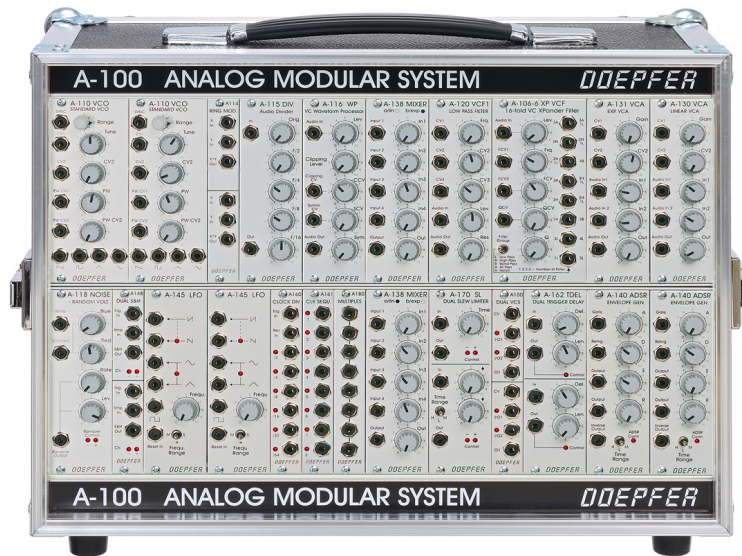

Figure 6: DOEPFER A-100 Analog Modular System
The next step was to plan out the design of the casing. After thinking about certain more complex designs I eventually opted for a simple design inspired by the Doepfer A-100 Analog Modular System (See figure 6).
- Figure 6: http://www.doepfer.de/A100_BS1_P6.jpg, 18.10.2019.